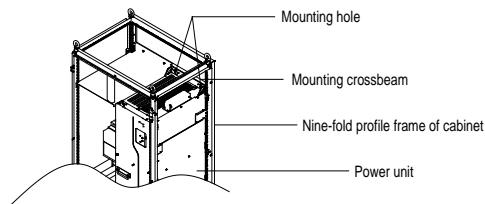

Figure 4-12 3D view of cabinet for VFDs in T11-T12 frames
- B. When mounting a VFD in frame T11-T12 into a nine-fold profile cabinet with the depth of 600mm, you must bend the mounting crossbeam inwards (shown in Figure 4-12) to make use of the space of vertical post, which is not necessary for the mounting into a standard cabinet with the depth of 800mm or greater.